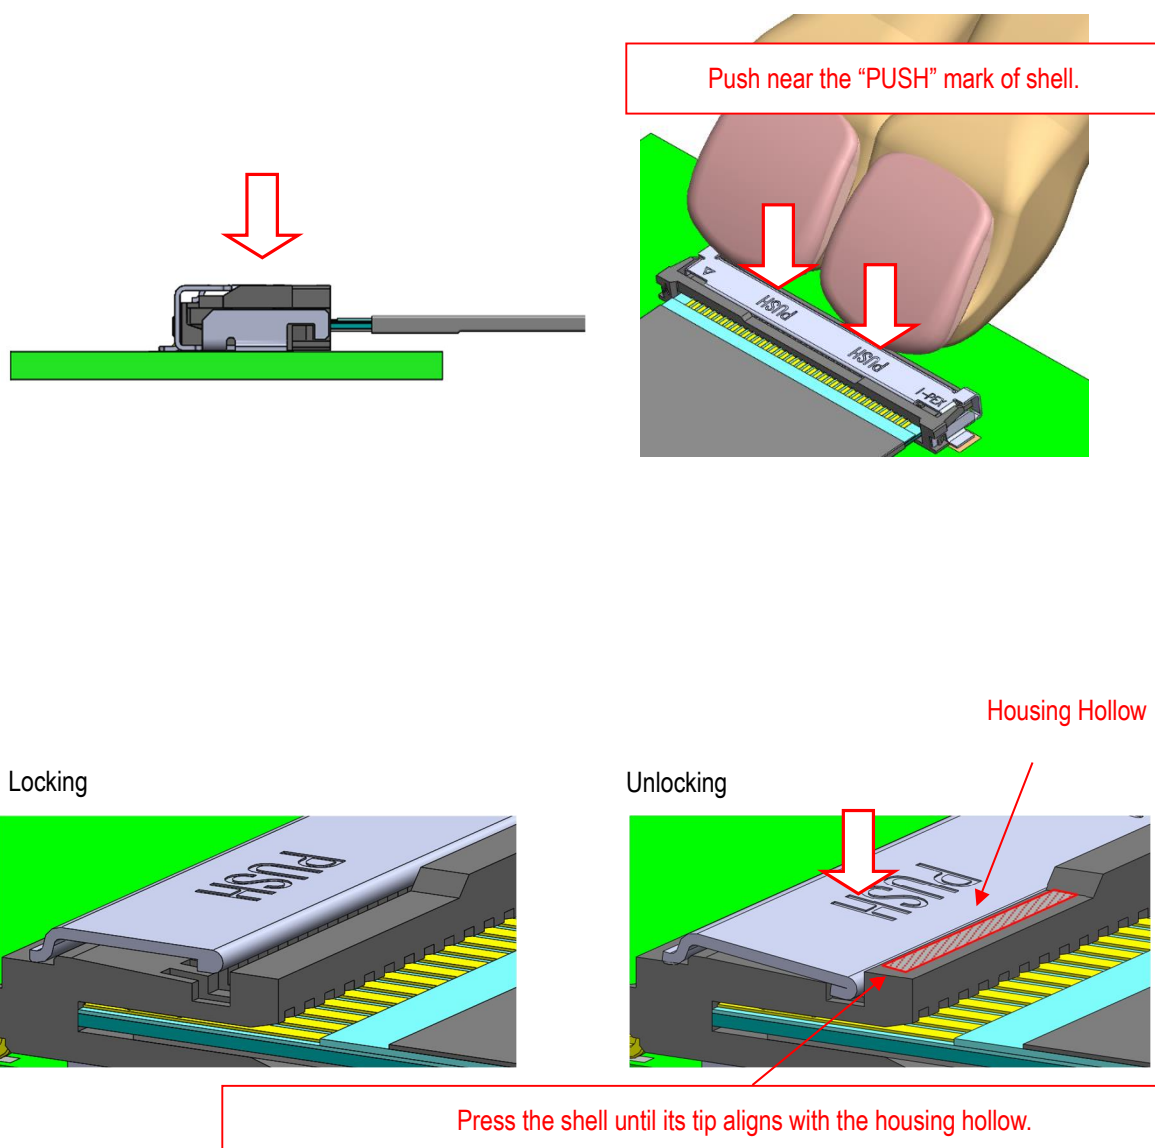

Fig.4-1 FFC Extracting Method 1
① Push entire top surface of the shell as shown in Fig.4-1.